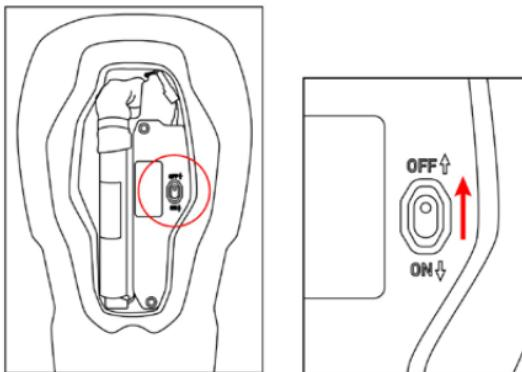

Figure 30: Location of the Shipping Mode Switch (8)
In the event the System needs to be shipped, the User must ALWAYS put the System into Shipping Mode. To do this, the User must access the Back Protector (4) by opening the zipper located on the back of the System. The User can easily access the Airbag Control Unit (5) by opening the back cover with the Velcro closure. Once the cover is removed, the User can put the System into Shipping Mode by switching the Shipping Mode Switch (8) to the OFF position, as shown in Figure 30. Shipping Mode will allow the User to ship the System safely and in compliance with applicable transportation regulations. To be able to use the System again you will need to turn the System on to restore the System to normal operation. Simply switch the Shipping Mode Switch (8) back to the ON position.